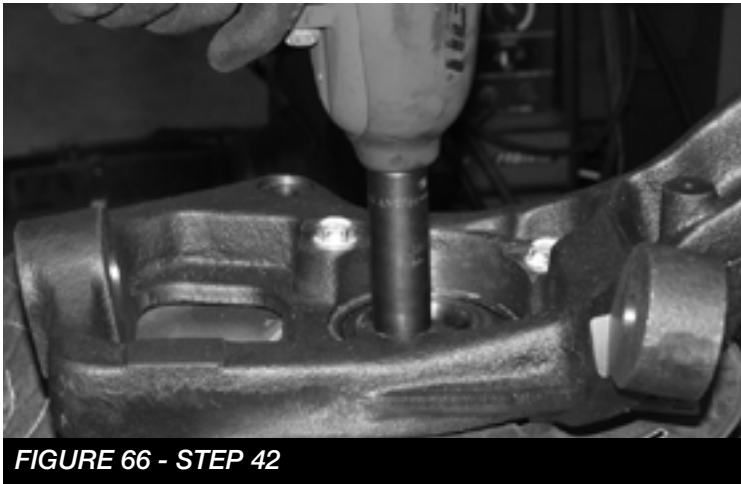

FIGURE 66 - STEP 42
42. Locate FT20840D (Driver spindle) & FT20840 (Pass spindle) assemble the new spindle on the hub assembly. Use thread lock on the factory hardware and torque to 125 ft-lbs. **SEE FIGURE 66**